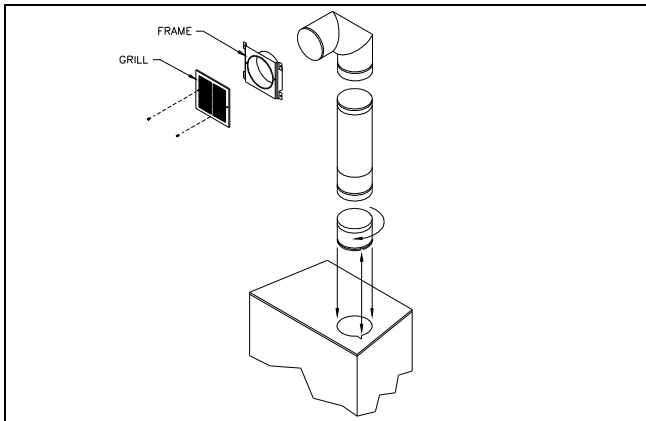

Figure 15
Double hot air outlet including: (See Fig.15)
1. Remove the top and bottom plates closing up the 8" dia. holes on top of the fireplace. Then, cut the insulation in order to obtain two 8" dia. free openings. Fix the adaptors on the fireplace openings by turning clockwise (figure 15).